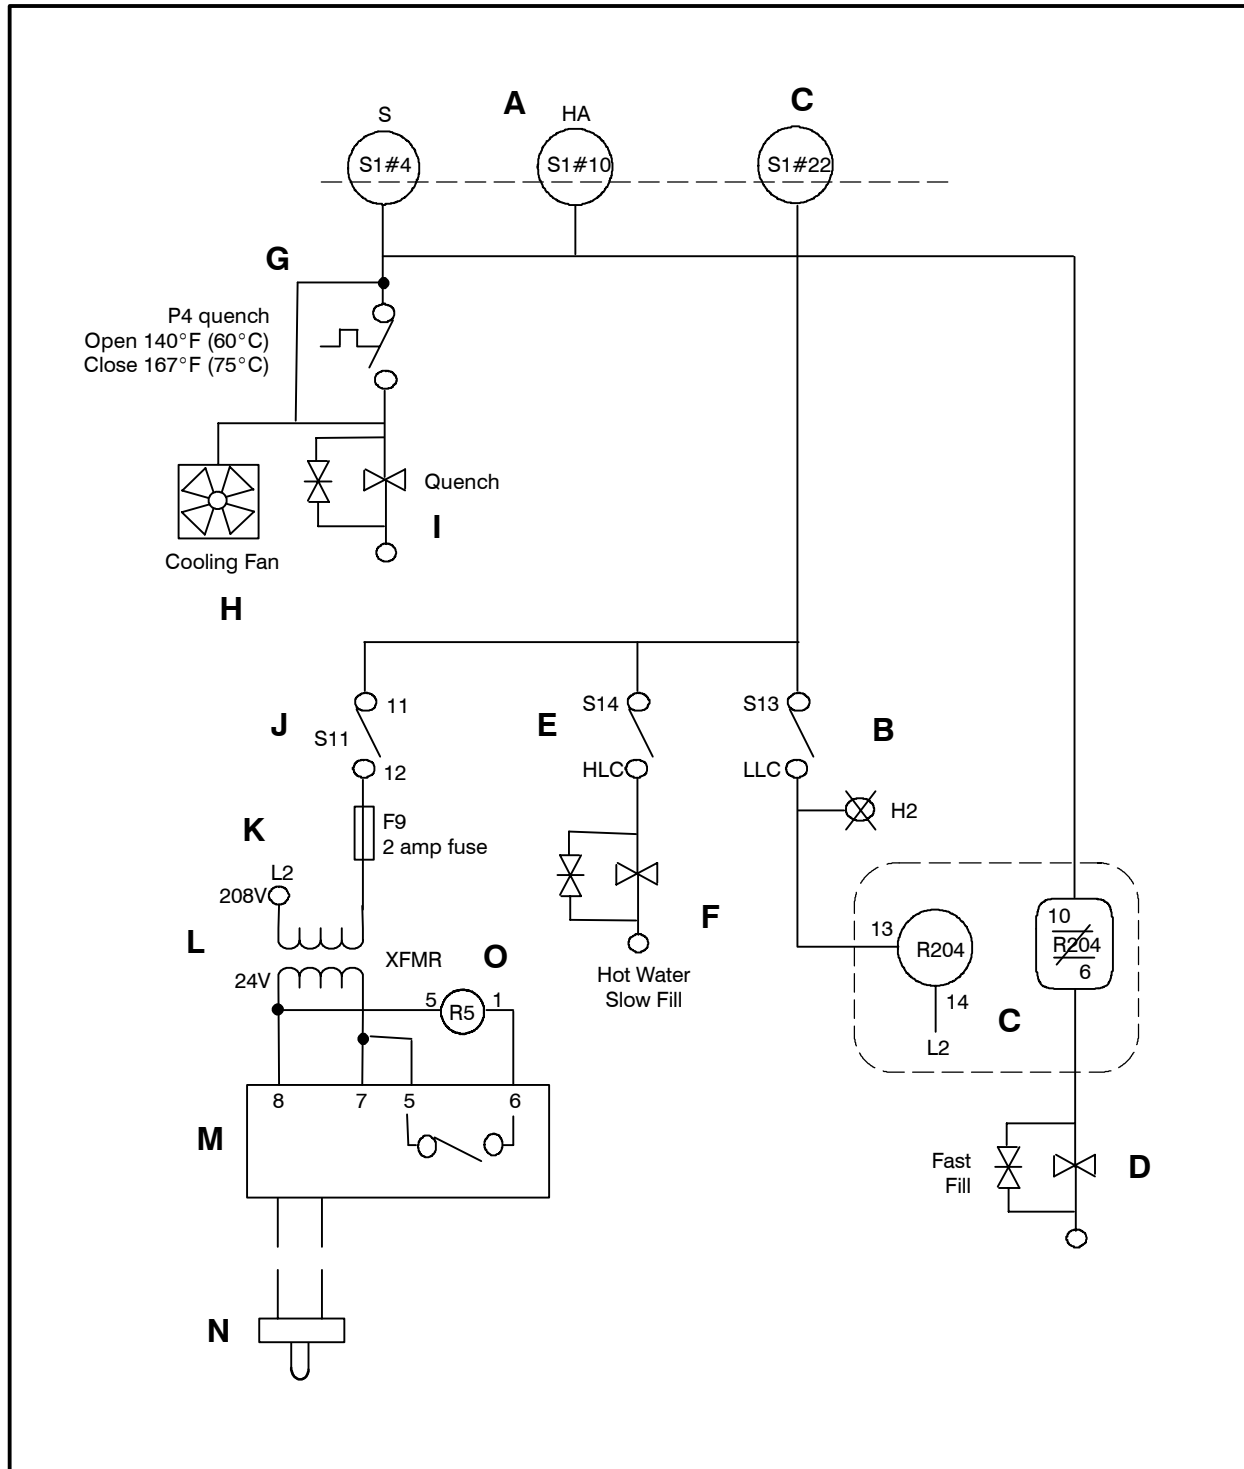

FIGURE 7
2. Check mode switch positions 4, 10, and 22. See FIGURE 7, location (A).
3. Check input and output to fast LLC (Low Level Control) float. The LLC is the long float. See FIGURE 7, location (B).
4. Check relay R204, coil, input and output. See FIGURE 7.
5. Check fast fill solenoid. See FIGURE 7, location (D).
6. Verify hot water slow fill is operating. See FIGURE 7, locations (E) and (F).